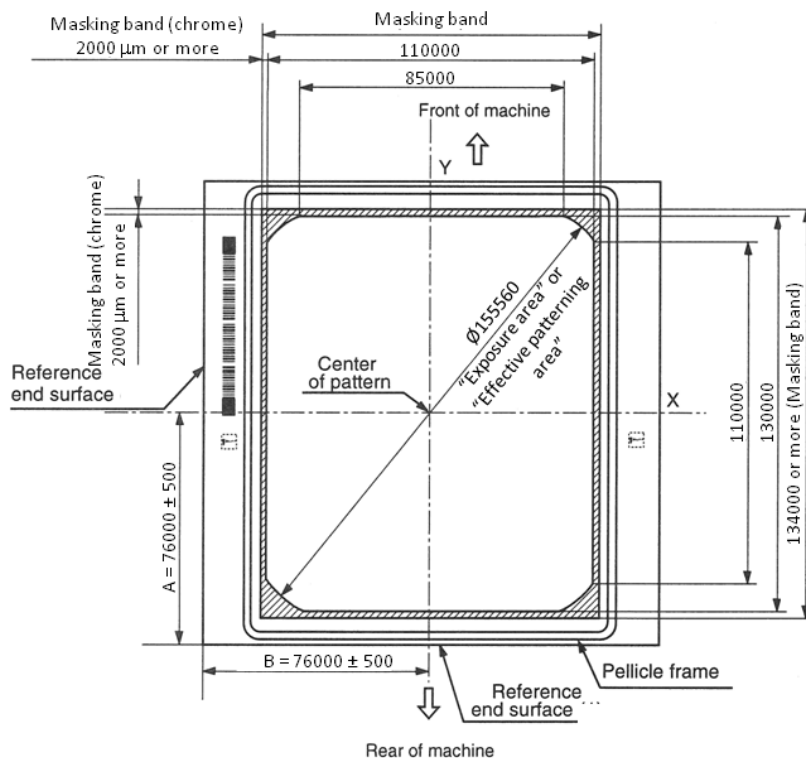

Figure 2: Reticle dimension (dimensions in  $\mu\text{m}$ )
The reticle dimensions are displayed in Fig. 2. The chip area on the reticle - i.e. the exposure area or the effective patterning area - has commonly a size of  $110\,000 \times 110\,000 \mu\text{m}^2$ . In the respective design it is advised to draw first a square with the help of a “cell outline layer” having a high GDSII number of maybe “20” or “50”. The size of this square should be  $110\,000 \times 110\,000 \mu\text{m}^2$ , i.e. the size of the effective patterning area. The zero point of the design should be positioned at the centre of this area. Thus the square is extended both in x and y direction from  $-55\,000 \mu\text{m}$  to  $+55\,000 \mu\text{m}$ . Then place all structures that should be printed on the reticle inside this square, using a “data layer” having a low GDSII number of maybe “1”, “2” or “5”. Please do not use a grid size that is much smaller than the smallest size that is required from your design.
The centre of the effective patterning area will be the centre of the particular chip on the wafer. The masking band (see Fig. 2) has not to be plotted; it will be added from the reticle manufacturer (4). The projection lens has the best performance in its centre. So place patterns with high demands concerning resolution near the centre of the design.
Alternatively, if larger chips are required on the wafer it is also possible to design a larger effective patterning area on the reticle with a dimension of  $x = 110\,000\ \mu\text{m}$  and  $y = 130\,000\ \mu\text{m}$ . However, all features have to be placed within a circle having a diameter of  $155\,560\ \mu\text{m}$ . The centre of this circle must be the centre of the pattern (see Fig. 2). Also here it is advised to draw a grid layer first having the dimensions of the effective patterning area.